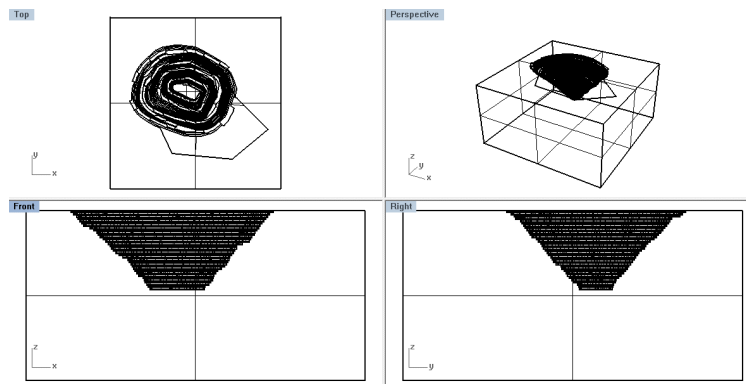

Figure 131: Box and pit after alignment.
32. From the *Rhino* menu, **View|Zoom|Zoom Extents All** to fit all the objects in all the windows at once. In the Top view, move the box so the pit is approximately in the center. Click on the label of the **Front** view to set it as the current view, select **Transform|Align**, select the box first, then the pit and press **<ENTER>**. On the **command-line**, you will see several alignment options. Click on the **Top** option to align the top of the box with the top of the pit (Figure 131).